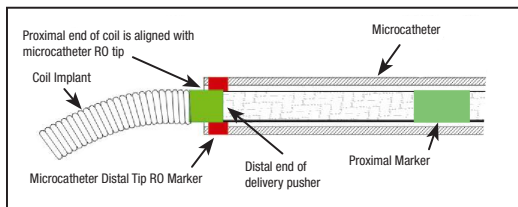

Figure 4 – Position of Marker Bands for Detachment
28. Advance the coil into the desired site until the radiopaque marker on the delivery pusher is aligned or slightly distal of microcatheter distal tip RO marker, positioning the detachment zone just outside the microcatheter tip. See Figure 4.